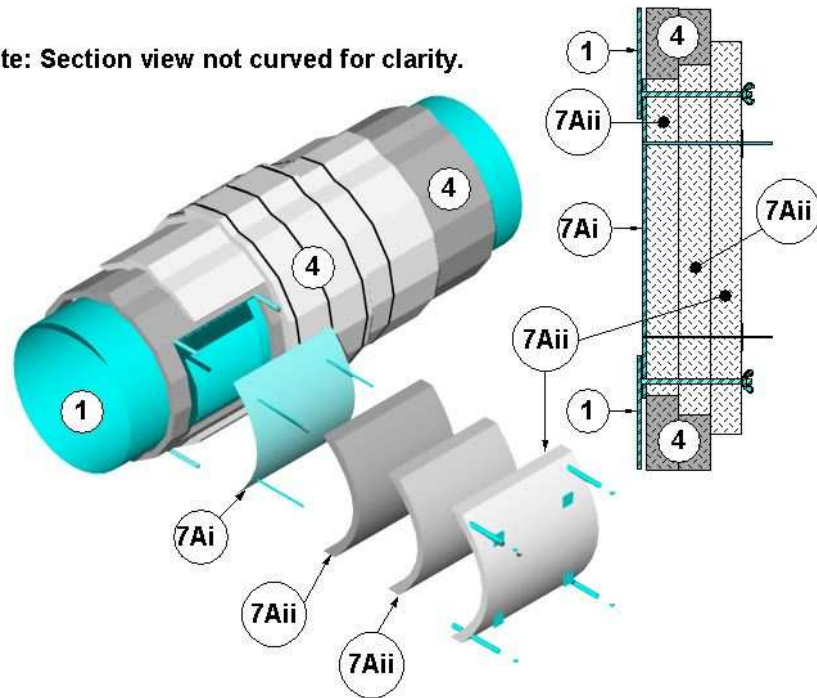

Figure 3 – Field Fabricated Access Door Option A
7. NONCOMBUSTIBLE² SUPPORTING CONSTRUCTION: Refer to Figures 3 and 4. Use one of the following wall or floor assemblies.